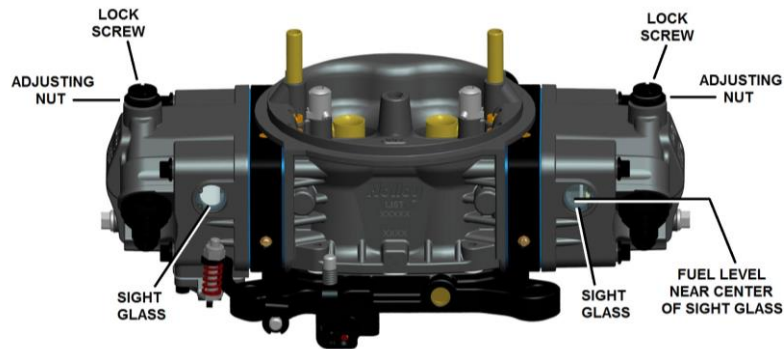

Figure 1
4. The fuel level in the clear sight glass should be mid-level for correct float adjustment. Most likely, this will not need to be adjusted. See Figure 1.